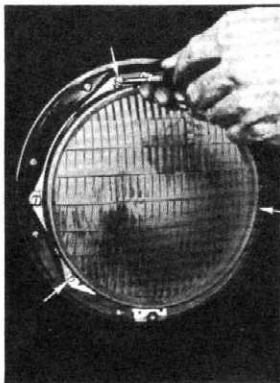

Fig. 38—Loosen Retaining Ring Screws
2. Loosen but do not remove the three screws holding the retaining ring. (See Fig. 38.) (Do not disturb the aiming screws at the top and on the left side of the unit.)